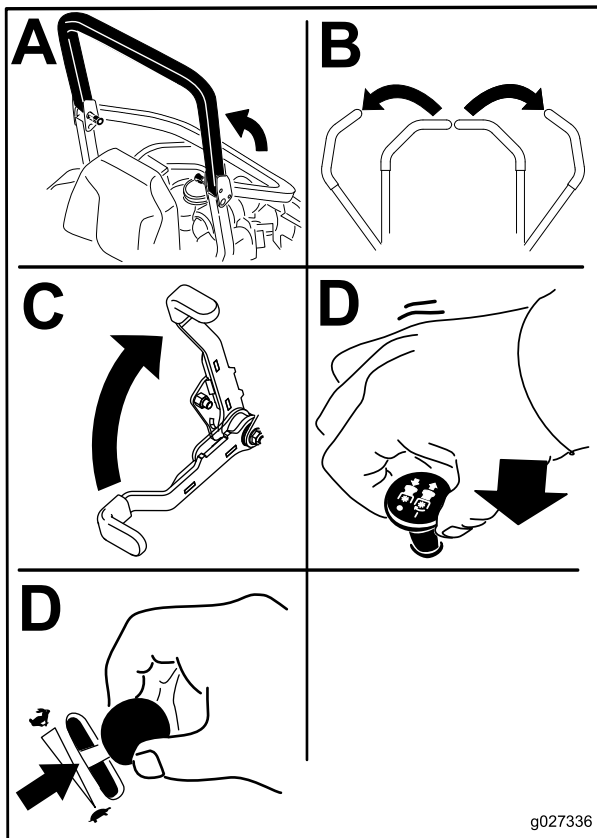

Figure 19
4. Move the blade-control switch (PTO) to the Off position (Figure 19).